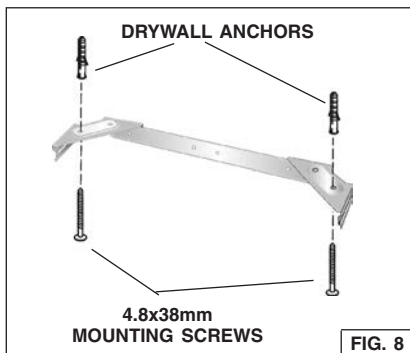

FIG. 8
3. Secure the bracket assembly to the ceiling using (2) 4.8 x 38 mm mounting screws and drywall anchors. Fig. 8. Make sure the bracket is pushed into the corner, tight against the wall and centered over the hood.